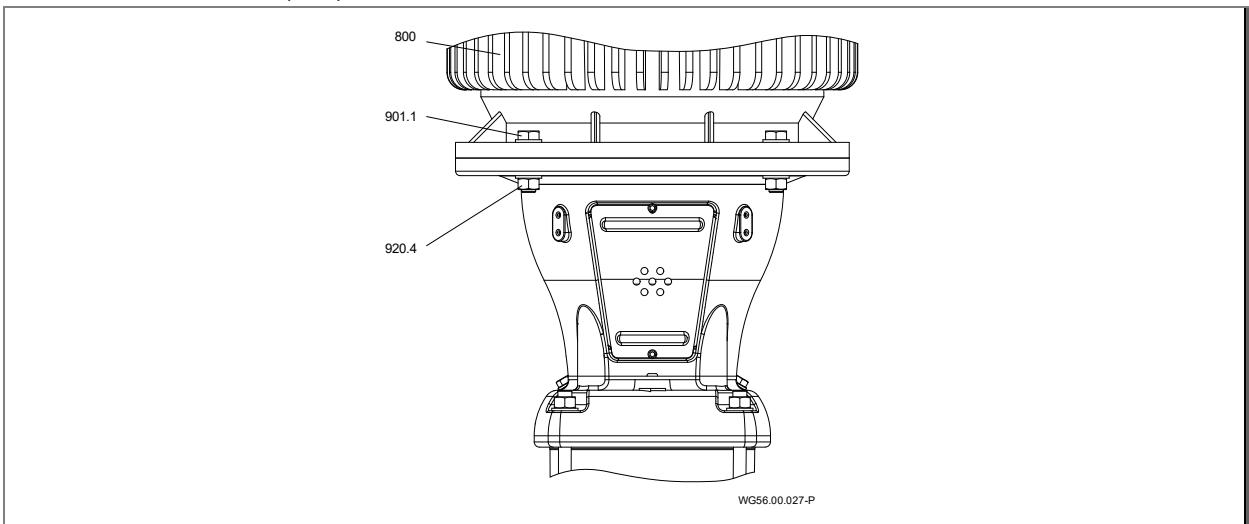

Fig. 13
- Observe figure 13.
1. Position the motor (800) on the drive lantern (161).